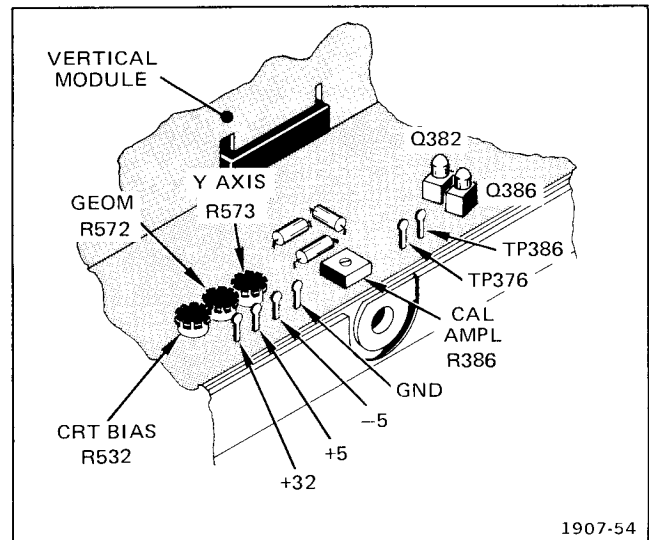

Fig. 6-3. Crt and calibrator adjustment locations.
d. Set FOCUS and ASTIG controls for well-defined spot. If spot is not displayed, adjust Crt Bias adjustment, R532, (see Fig. 6-3) for a visible spot. Then, adjust FOCUS and ASTIG controls.
- d. ADJUST—Y AXIS, R573 (see Fig. 6-3), to align center time mark with center vertical graticule line.
- b. ADJUST—Geometry, R572 (see Fig. 6-3), for minimum bowing of time marks.
- b. Connect shorting jumper between TP376 and TP386 (see Fig. 6-3). If output voltage does not read between +297 mV and +303 mV, continue with step c.
- c. ADJUST—Calibrator Amplitude, R386 (see Fig. 6-3) for +300 mV.